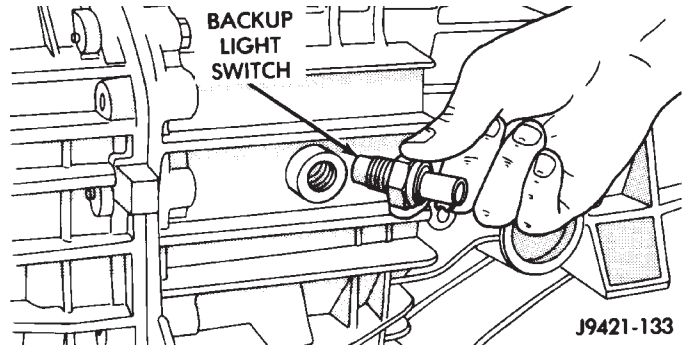

Fig. 128 Installing Backup Light Switch
(15) Install detent plug as follows:
(16) Install backup light switch (Fig. 128).